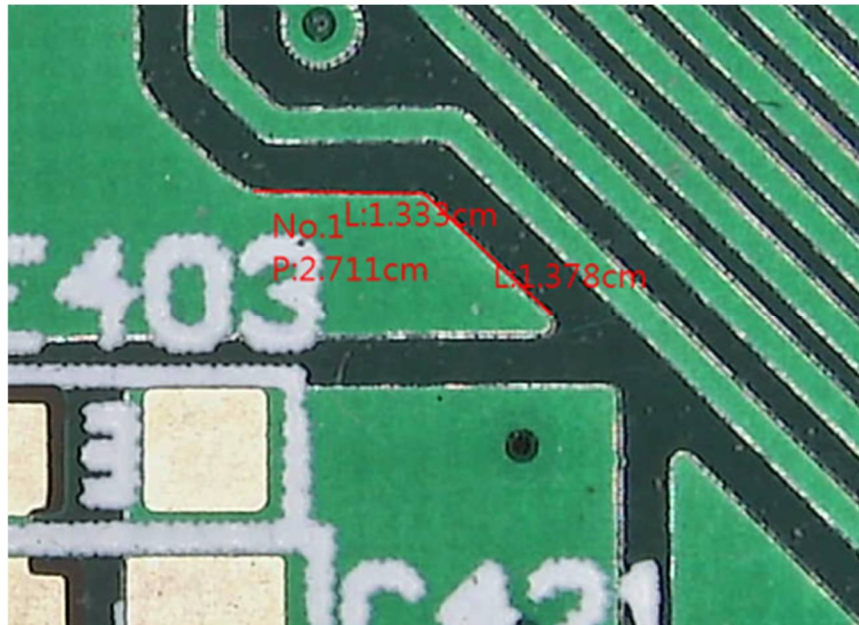

Fig 5-27 Measure Polylines
- (16) Polyline : Measure lengths from lines. Measure total lengths by using Polylines. Each left click to stop at a point and continue measure, right click until the end of the point. See Fig 5-27.